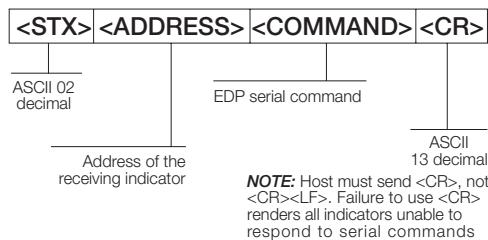

Figure 10-2. RS-485 Send Data Format
All remote commands are initiated using the data format shown in Figure 10-2:
**Example:** To send the KPRINT command from an ASCII terminal to an indicator at address 65 (decimal) on the RS-485 network, use the format shown in Figure 10-2.
- The indicator address (65) is represented by an upper case “A”.
- The carriage return (CR) character is generated by pressing the ENTER key.